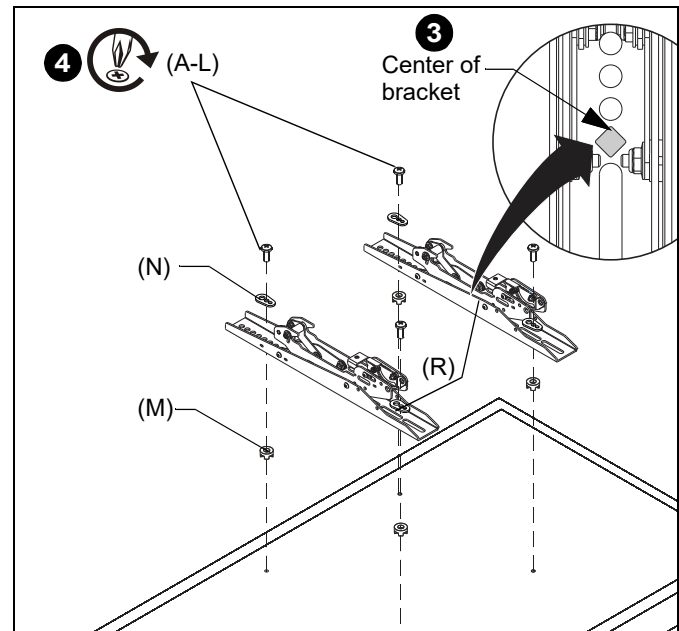

Figure 26
- Align the center of the interface bracket (R) with center of screen. (See Figure 26)
- Select correct screws, spacers (if necessary) and universal washers from the hardware bag (A-N) and attach brackets (R) to back of screen. (See Figure 26)